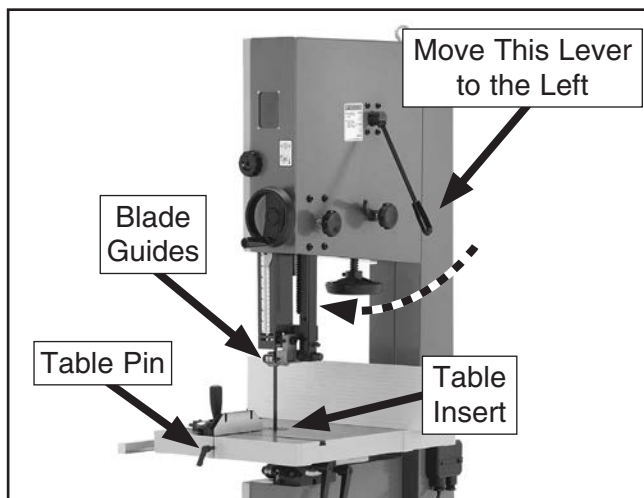

Figure 73. Blade changing controls (G0513X2 shown).
2. Release the blade tension by turning the blade tension quick-release lever to the left (see **Figure 73**).